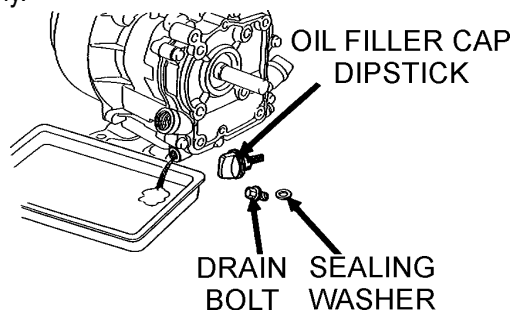

Figure 28. Engine Oil (Draining)
- Drain the engine oil when the oil is **warm** as shown in Figure 28.